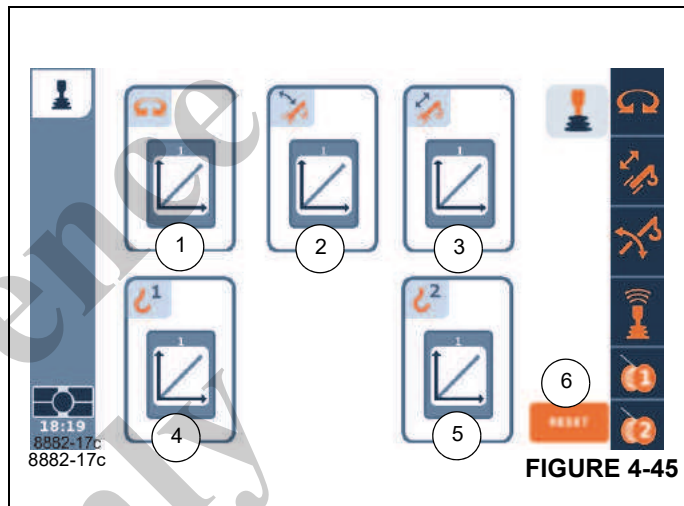

FIGURE 4-45
The Controller Sensitivity Function Screen (Figure 4-45) allows the operator to adjust the sensitivity of the controllers and foot pedal (optional).
NOTE: When a Reset Function is enabled (6), (Figure 4-45), everything is then placed at 100%.
The Controller Speed Function Screen (Figure 4-45) allows the operator to adjust the crane function speeds relative to the positions of the controllers and the foot pedal (optional). Adjustment is made as a percentage of full rated speed.